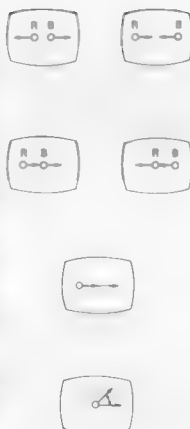

Figure 3
- (1) Set the CONTRAST control (VR682) to its minimum position (fully counterclockwise). If necessary, adjust the BRIGHTNESS control (VR681).
- (2) Adjust the two 4-pole magnets to converge red and blue vertical and horizontal lines at the center of the screen.
- (3) Adjust the two 6-pole magnets to converge the red and blue lines on green (Figure 3).